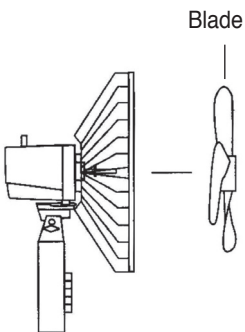

Fig. 3
3. Slide blade on motor shaft and secure with blade cap by turning counterclockwise. (Fig3 and Fig 4)